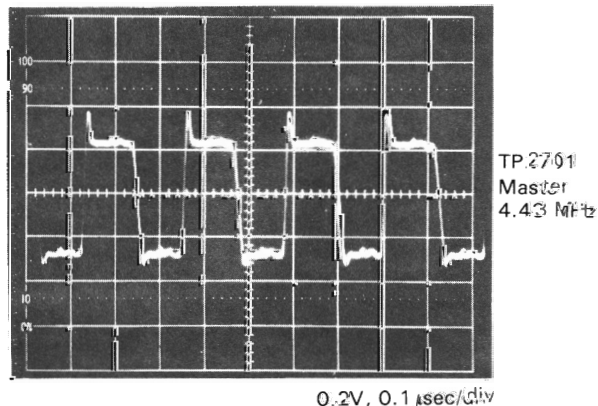

Figure 2-13
3. Connect a frequency counter to TP2702 (GND) and TP2701 (Master 4.43 MHz) and adjust C2727 (Master 4.43 MHz Adj.) to obtain a frequency counter reading of 4433.62 ± 0.02 kHz at TP2701. (Fig. 2-13)